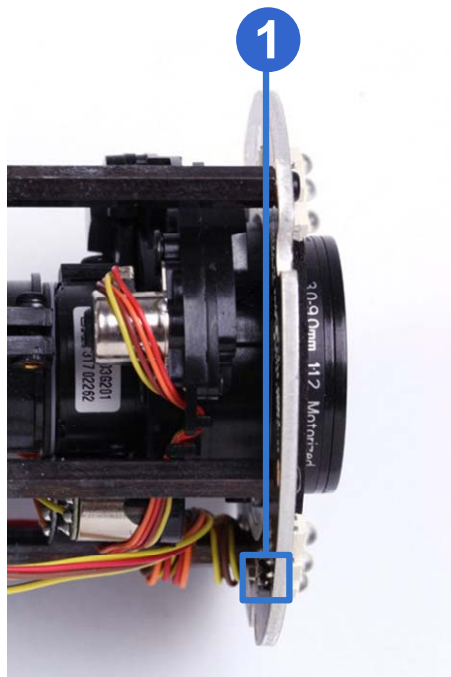

Figure 1-12
7. Based on the live view, adjust the angle, zoom and focus of the camera of the camera. For adjusting three shafts, see 1.2.7 *Adjusting the Angles*. For changing zoom and focus, see *Figure 1-12*.